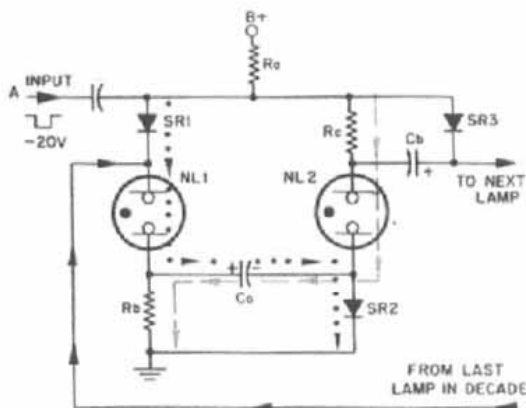

Fig. 1—Simplified counter: NL1 is on, NL2 off. Input pulse turns NL1 off, NL2 on. Next input pulse turns NL2 off, next lamp on. NL1 stays off.
To see how they work, take a look at Fig. 1, a simplified circuit showing only two neon lamps. Consider neon lamp NL1 *on* and neon lamp NL2 *off*. In this condition Ca is charged from B+ via the dotted path through diode SR1, NL1 and SR2 to ground. When a pulse of approximately  $-20$  V is applied to the input, the voltage on NL1 drops below its extinguishing voltage, and NL1 goes off.
Fig. 11—Decade counter. Circuit is extension of that shown in Fig. 1. As there are six circuits in computer, we show six designations (1; 10; 100; 1,000; 10,000; 100,000—one for each counter) on line (H) only.